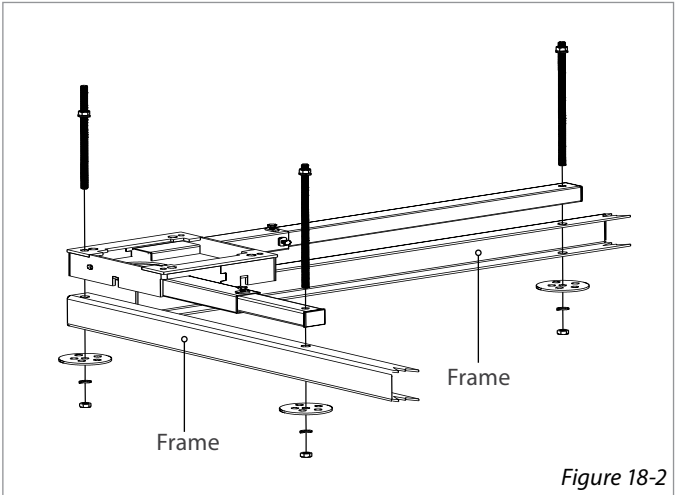

Figure 18-2
**Finish drilling** by making 3/8" holes through the truck bed and when possible, through the frame of the truck in the locations shown by the arrows. [Figure 18-2]
Wherever possible, incorporate the frame rails of the truck. This is a requirement when lifting heavier chairs and scooters. [Figure 18-2]